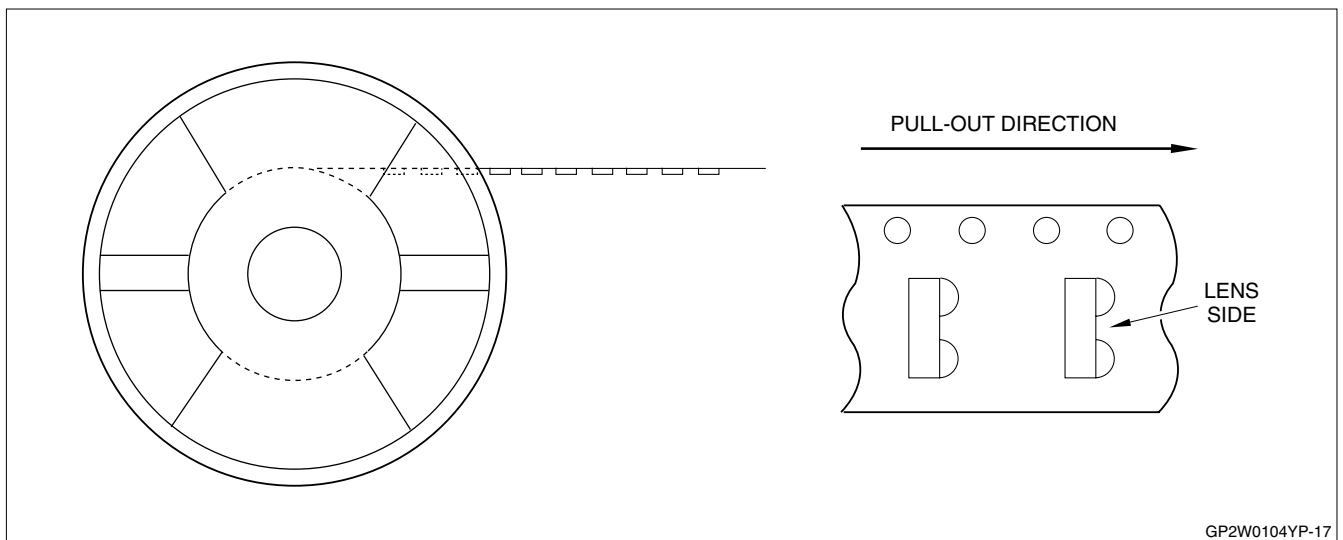

Figure 17. Direction of Product Insertion
- Direction of product insertion: Product direction in carrier tape should be such that electrode side of product is placed on the cover tape side and lens side of product is placed on the hold side of the tape. See Figure 17.